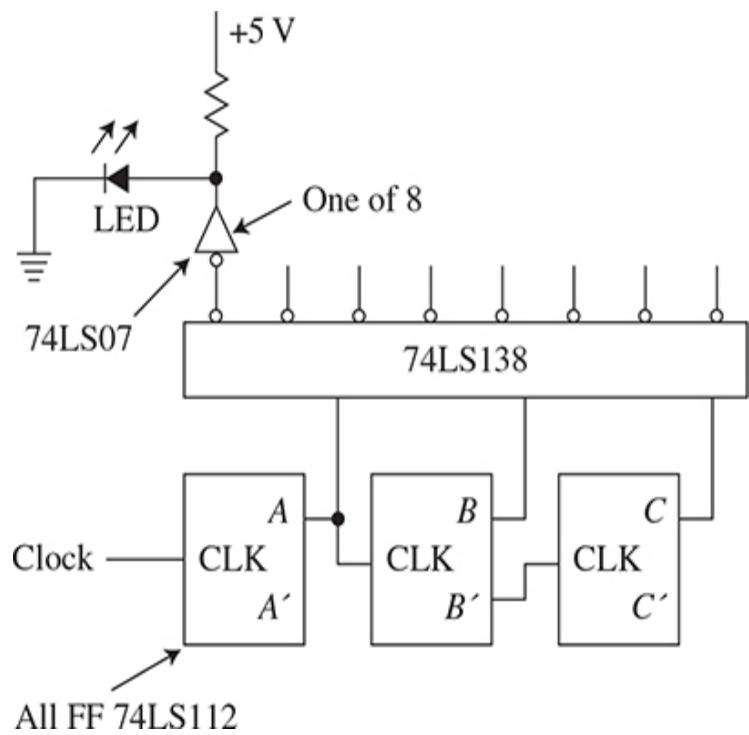

Figure 15.5 A digital circuit for troubleshooting.
Figure 15.5 is a digital circuit made up of 74LS series of ICs. It is a binary up counter made of 74LS112 JK flip flops (FF). They are negative edge triggered or toggled. The counter operates a 74LS138 3-line to 8-line decoder. The decoder outputs drive 74LS07 open collector inverters that in turn operate LEDs. Only one inverter driver circuit is shown to simplify the schematic. As the counter counts, the LEDs should come on one at a time in sequence. However, the circuit does not work correctly. The LEDs appear to light up in some random order. Why?